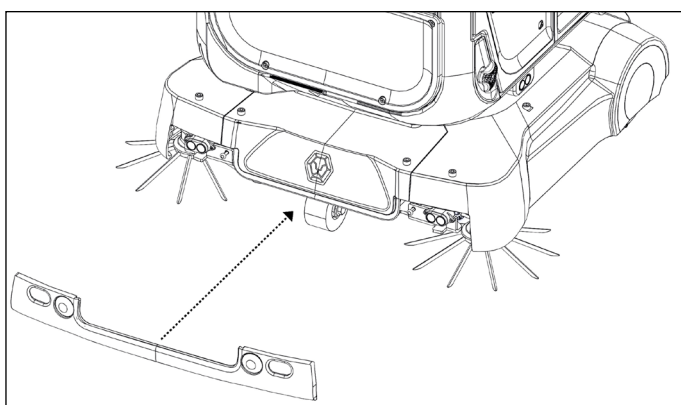

Figure 79
5. Replace the cover by pushing the cover firmly back such that the 2 mating metal rods lock into the buttons (**Fig. 79**).